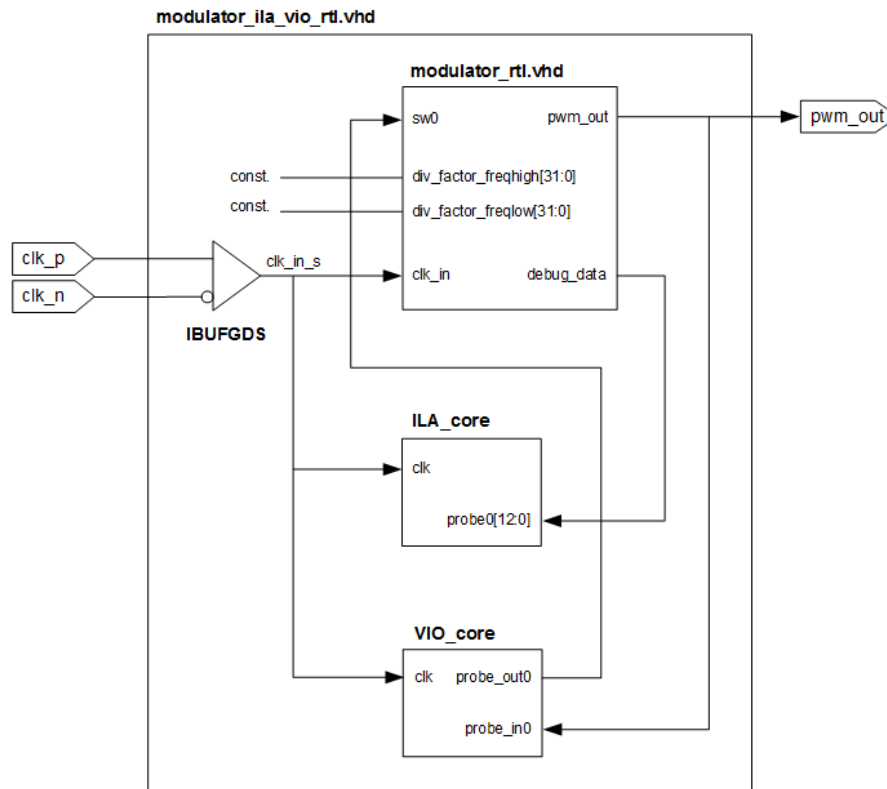

Figure 14.19: Connection between the ILA core, VIO core and Modulator module
After configuring and generating ILA and VIO cores, we should make a new module (**modulator\_ila\_vio\_rtl.vhd**) where we will connect the existing design (**modulator\_rtl.vhd**) with **ILA** and **VIO** cores (see Figure 14.19). By doing so, for the *sw0* port control it won't be necessary to use a switch on the development board. Instead, we will use one of the VIO core's outputs to control the *sw0* port. This will enable us to change the state of the *sw0* port inside the Vivado Logic Analyzer.
- instantiate and connect ILA and VIO cores as it is shown on the Figure 14.19.